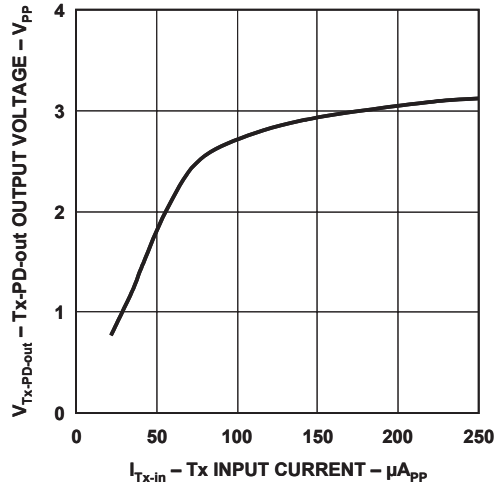
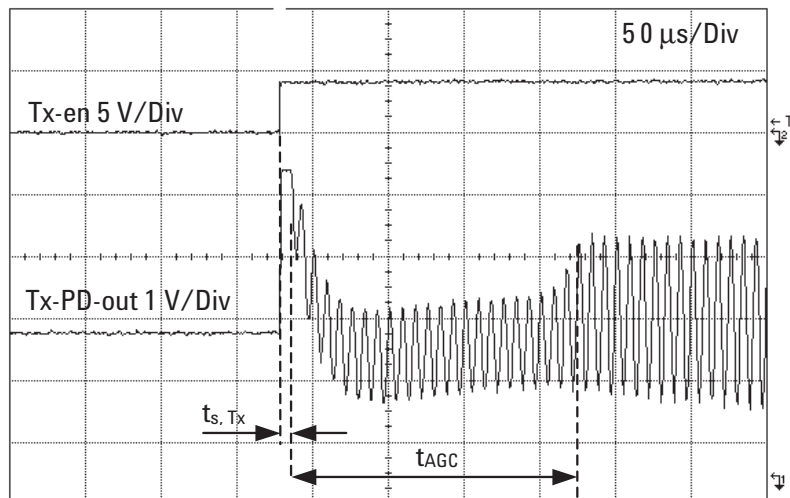

Figure 8. Tx-PD-out output voltage vs. Tx-in input current.
Figure 18. Tx-PD-out AGC response time.
1. Time from transmit is enabled (V_{Tx-en} is set to logic high) until output (Tx-PD-out) is available. See Figure 18 in the Application Information section.
2. Time from output (Tx-PD-out) is available until Tx-PD-out signal reaches 66% of its steady state level. See Figure 18 in the Application Information section.
This AGC circuit compensates for variations in the input signal level presented at Tx-in and variations in the optical channel over temperature and time. The Tx-PD-out output signal is effectively stabilized for input Tx-in signals of between $150 \mu\text{A}_{\text{PP}}$ and $250 \mu\text{A}_{\text{PP}}$ (see Figure 8). The AGC circuit starts to function 10 μs after the Tx-en signal is set to logic high. After a period of 180 μs the Tx-PD-out signal typically reaches 66% of its steady state level (see Figure 18). To ensure correct operation of the internal circuitry, an external 1 μF capacitor needs to be connected from pin 11 to GND2.